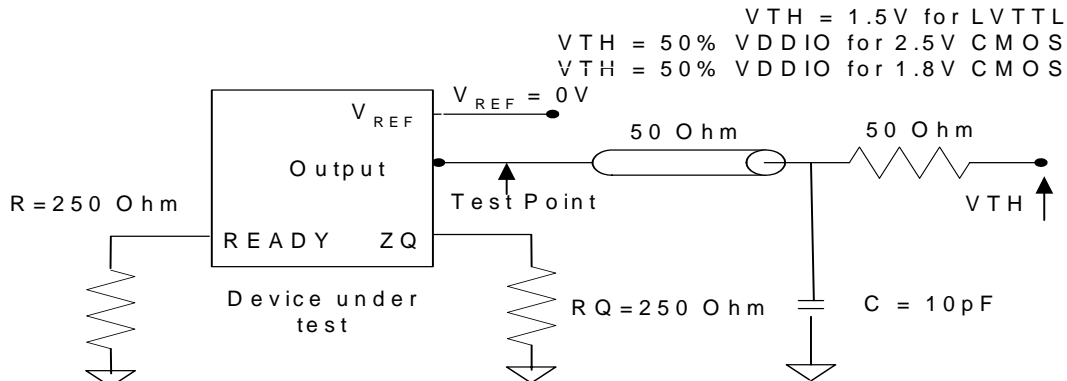
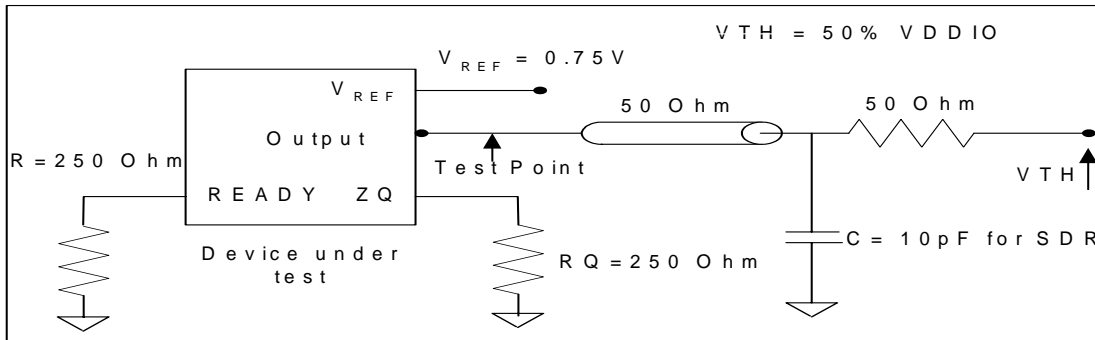

Figure 5. Output Test Load for LVTTL/CMOS
Figure 6. Output Test Load for HSTL
30. Parameters specified with the load capacitance in Figure 5 and Figure 6.